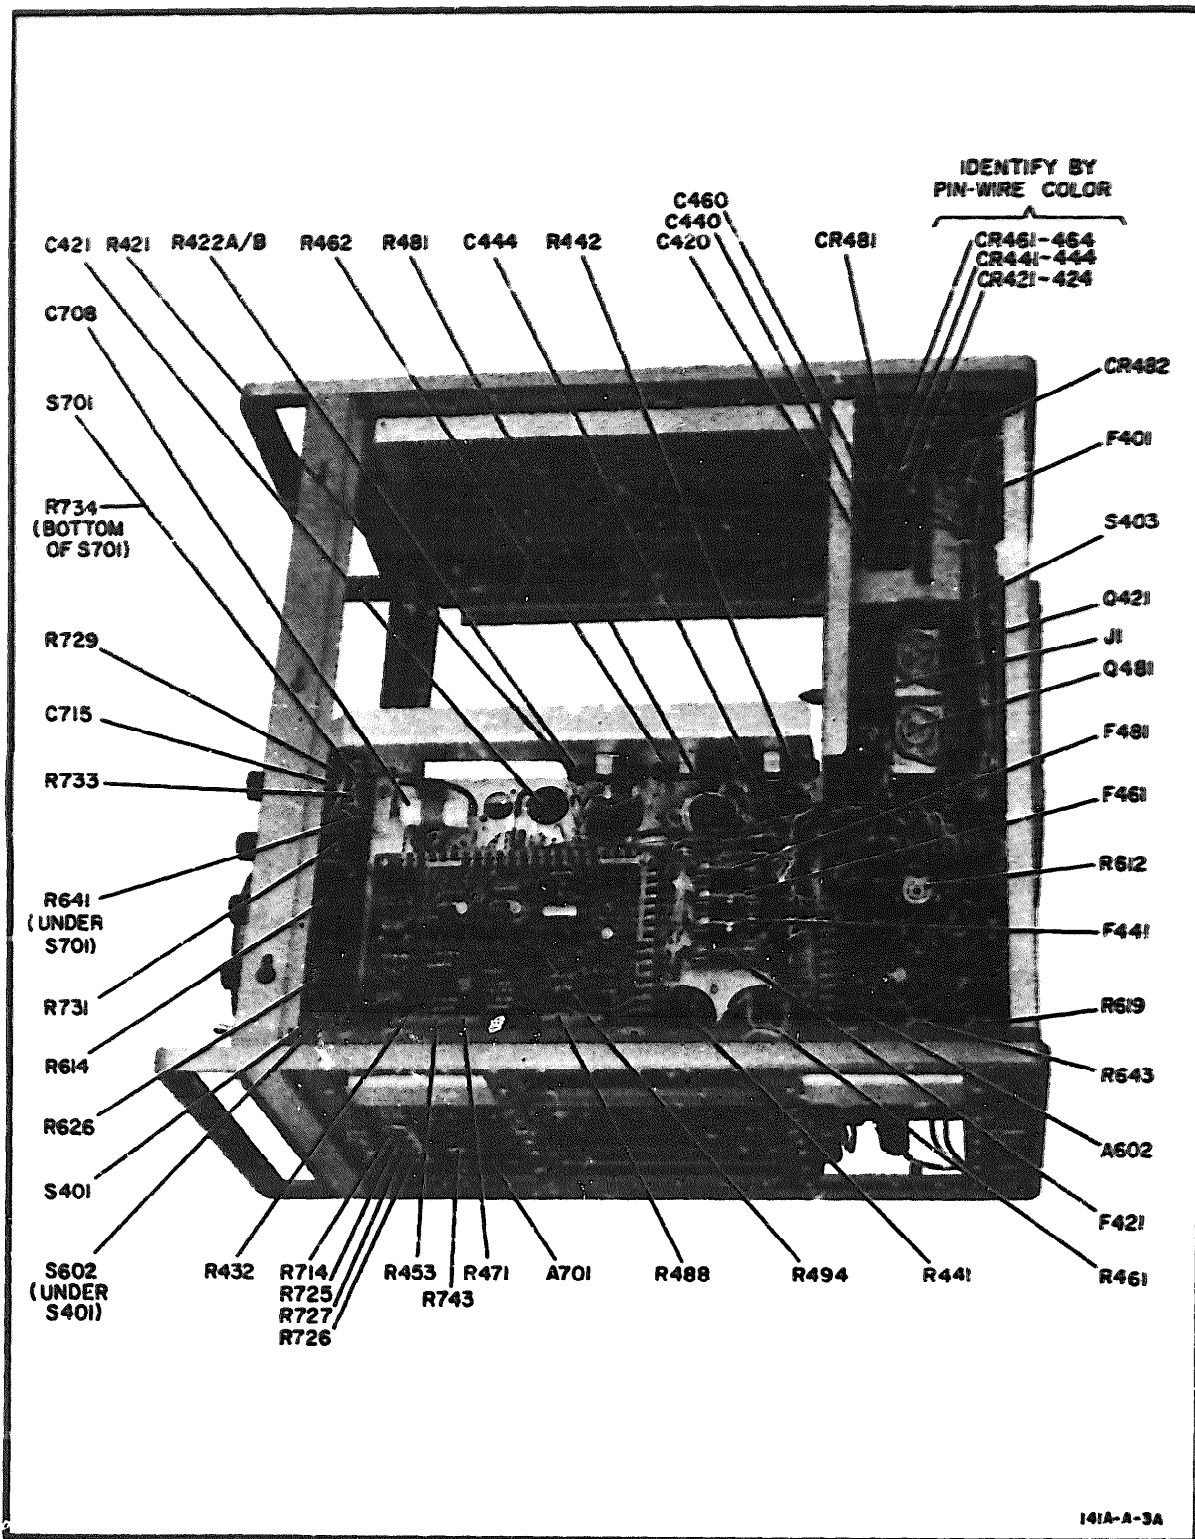

Figure 1-19. Adjustment and Component Locations, Bottom View
c. ADJUSTMENT COMPONENT IDENTIFICATION. All internal adjustment components are identified in Figure 1-19.
Chassis-mounted components are identified in Fig. 1-19 & 1-20. Components on circuit boards are identified in figures near the applicable schematic (also see (also see Table 1-9).